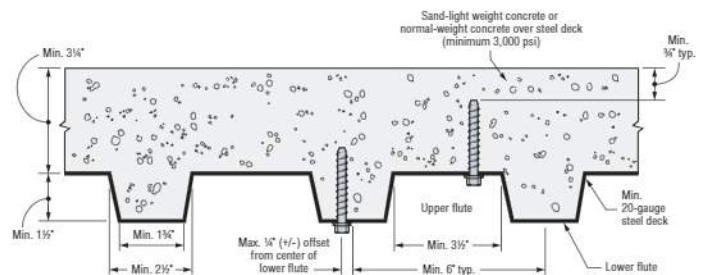

Figure 2. Installation of 1/4"-Diameter Anchors in the Soffit of Concrete over Metal Deck
- For anchors installed in the topside of concrete-filled deck assemblies, as shown in Figures 2 and 3, the nominal concrete breakout strength of a single anchor or group of anchors in shear, V_{cb} or V_{cbg} , respectively, must be calculated in accordance with ACI 318-14 Section 17.5.2 or ACI 318-11 Section D.6.2, using the actual member thickness, $h_{min,deck}$, in the determination of A_{vc} .
- Minimum flute depth (distance from top of flute to bottom of flute) is 1½" (see Figures 2 and 3).
- Minimum concrete thickness ($h_{min,deck}$) refers to concrete thickness above upper flute (see Figures 2 and 3).